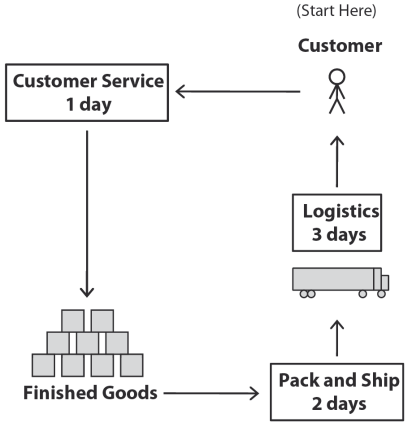

Figure A.1
*Figure A.1* shows the workings of the basic order fulfillment process for a BadgerTran. Remember that the MCT value needs to be stated in calendar time. For simplicity, I will begin with the situation where the company works 7 days a week, so that calendar time and working time are the same. Later I will show you how to convert to calendar time in the more typical situation of a 5-day workweek and one or two shifts per day, as well as for even more complicated situations where different sections of your business have differing work schedules.